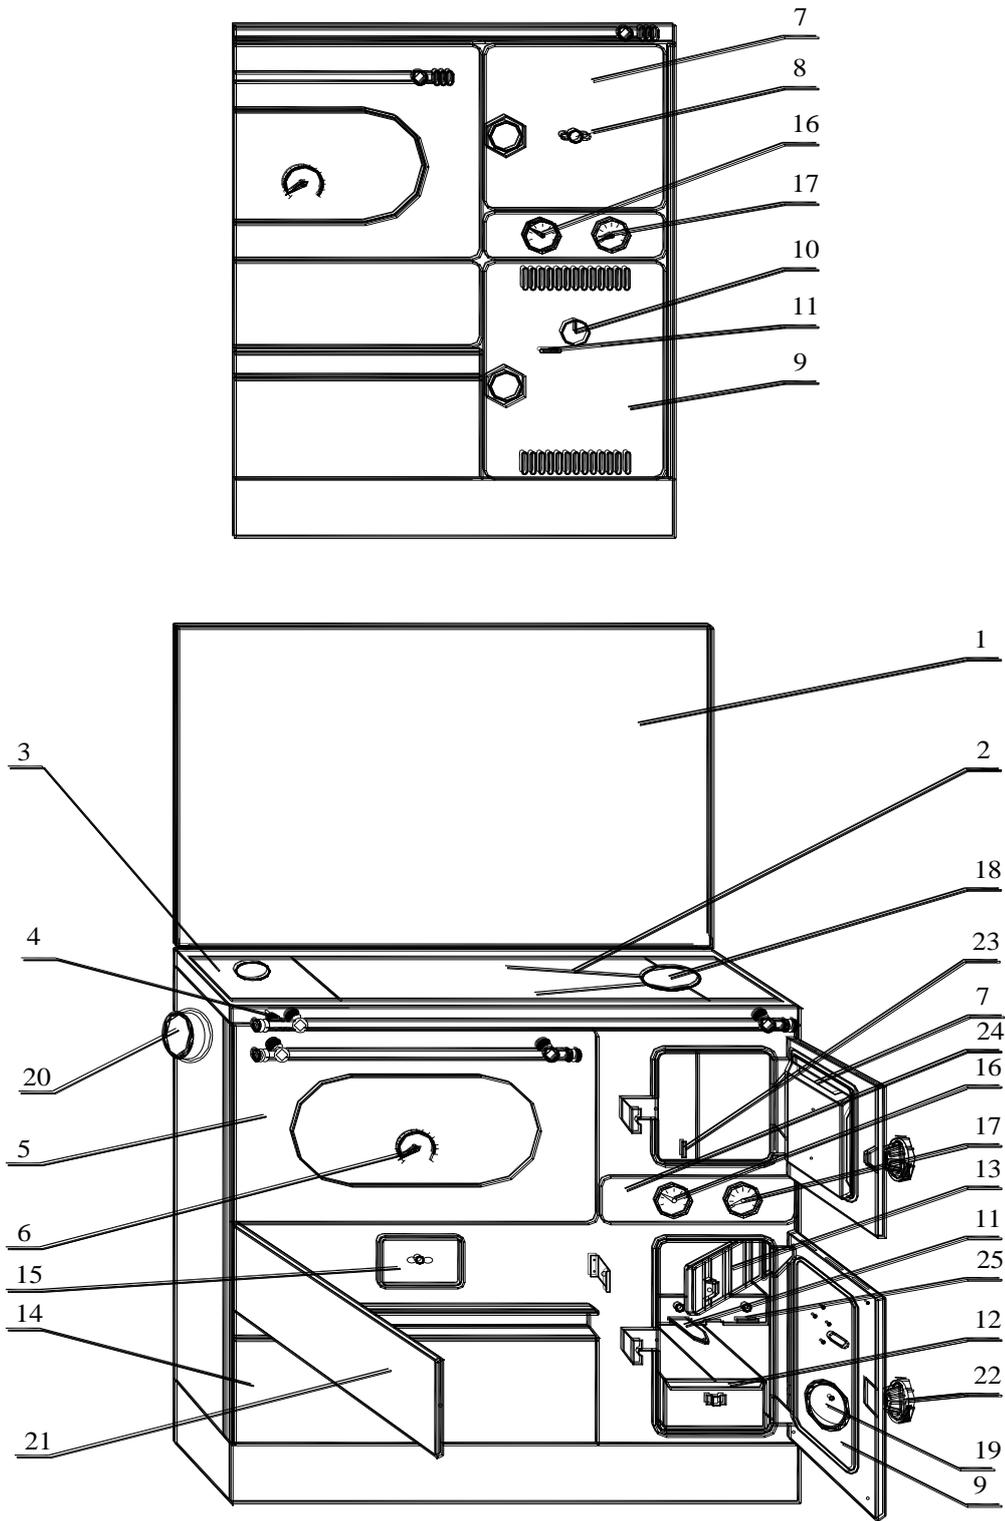
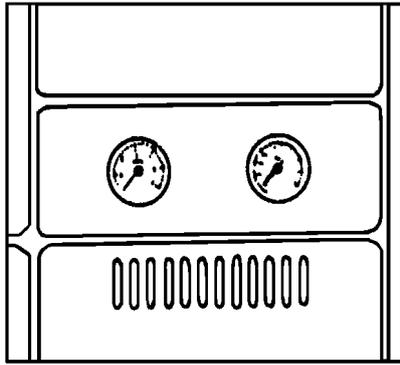

Figure 1
Figure 5
### 2. APPEARANCE AND STRUCTURE OF A STOVE WITH A FLOOR HEATING BOILER (fig.1)
- combustion regulator (thermostat) (fig. 1 pos.10), located in the ashtray door, which automatically closes the air intake in the stove firebox when the set water temperature in the boiler is reached,
- The combustion regulator (thermostat) with regulation knob (fig.1 pos.10) should properly open and close the regulator flap (fig.1 pos.19).
- The ember holder (fig.1 pos.13) should be properly placed in its bearing and should be easily open.
### **6.4 THERMOMETER AND MANOMETER (fig. 1 pos. 16 and 17 and fig. 5)**
On the stove itself, on the additional cover (fig.1 pos.24) between the firebox door and the ashtray door, thermometer and manometer are mounted (fig.1 pos.16 and pos.17, and fig.5) so they do not have to be placed on the installation.